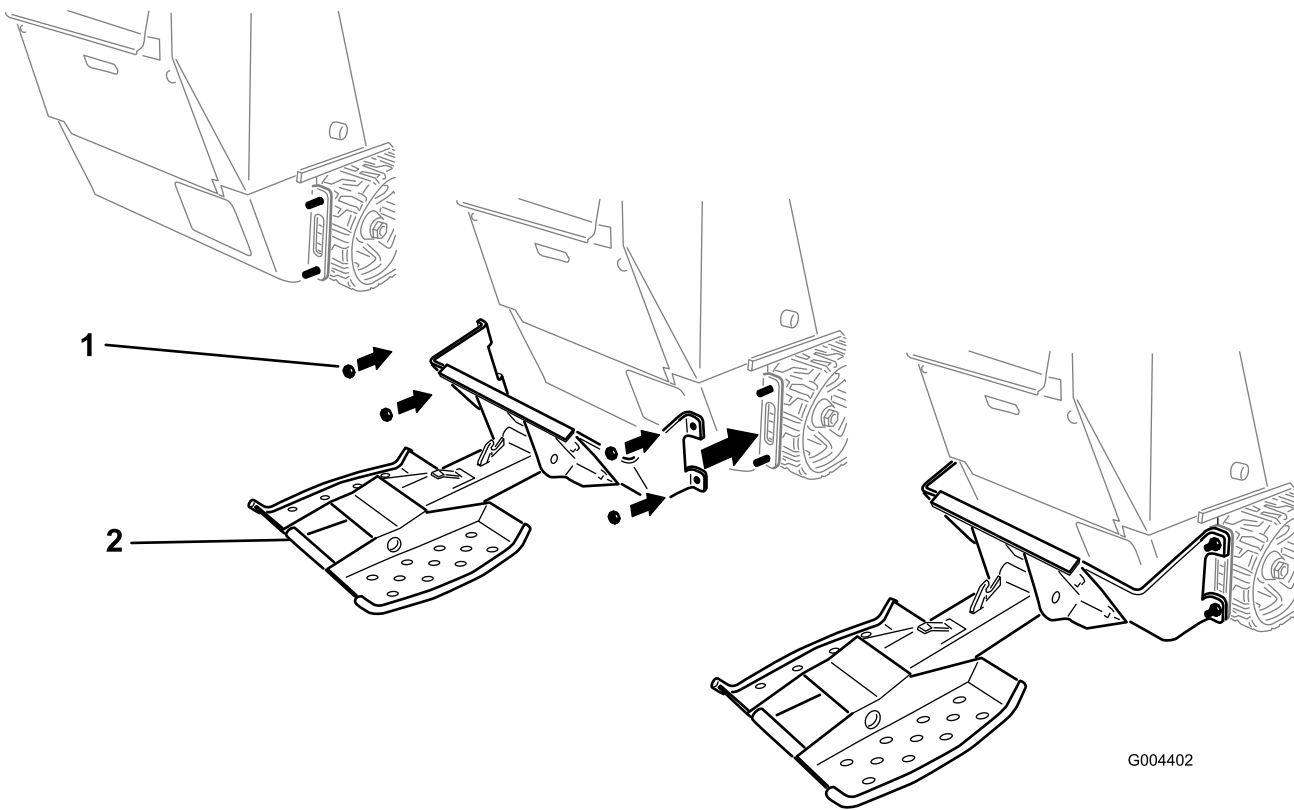

Figure 5
- Install the mounting brackets (Figure 5) onto the 4 bolts (1/2 x 1-1/2 inches) you inserted earlier, and secure them with 4 flange-head nuts (1/2 inch).